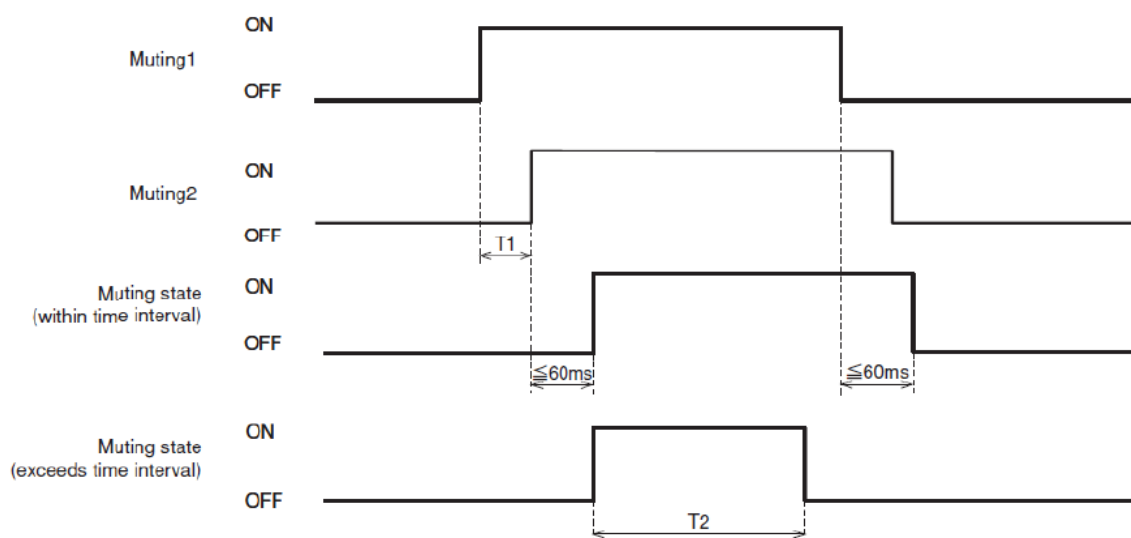

Figure 4-7 Muting sequence
- The two independent hard wired muting input signals or FSoE input data are switched to ON state in the predefined sequence within the pre-set time interval. The switching interval between two input signals should not be 0 (Refer to figure 4-7).
- When the predefined (preset) maximum muting time T2 exceeds (1 minute and above) (Figure 4-7).
Figure 4-7 shows the muting sequence.